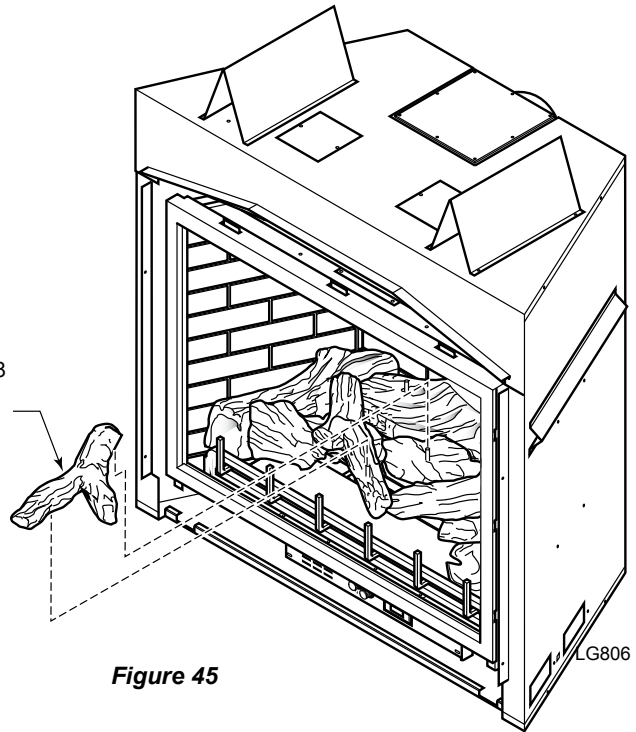

Figure 45
10. Place top center log (#8) across rear log (#1) pin and left mid log (#6) pin. *Figure 45*